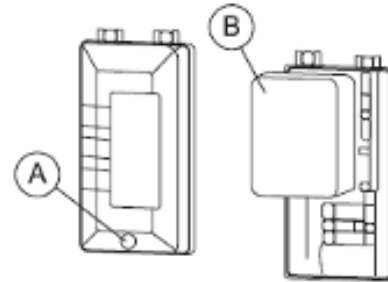

Figure-14 Air Filter Assembly
- Unscrew the filter attachment screws (A). See Figure-14.
- Carefully remove the pre-cleaner and wash it with liquid detergent and water. And then Squeeze dry in clean cloth (DO NOT TWIST). (B). See Figure-14.